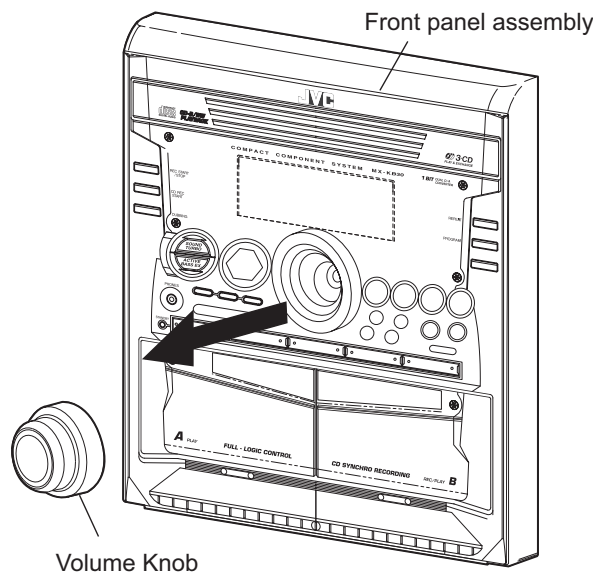

Fig.22
- (1) Pull out the volume control knob from the front of the front panel assembly.(Fig.22)